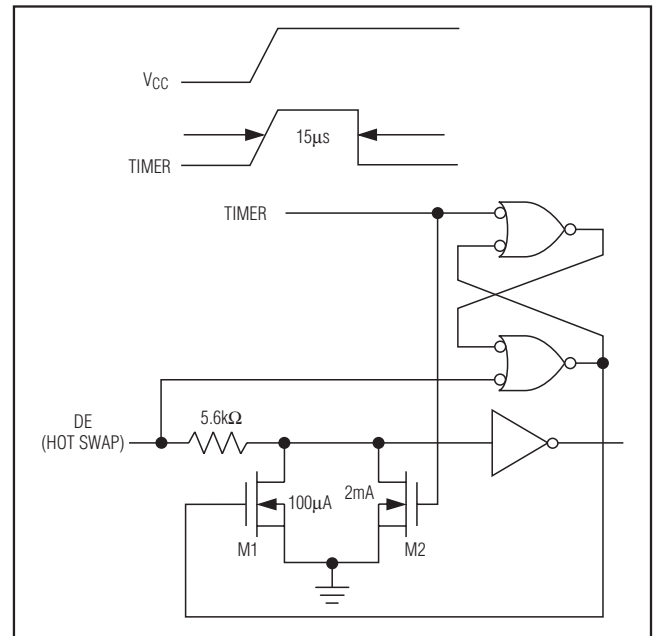

Figure 10. Simplified Structure of the Driver Enable Pin (DE)
At the driver-enable input (DE), there are two NMOS devices, M1 and M2 (Figure 10). When VCC ramps from zero, an internal 15 μs timer turns on M2 and sets the SR latch, which also turns on M1. Transistors M2, a 2mA current sink, and M1, a 100 μA current sink, pull DE to GND through a 5.6k Ω resistor. M2 pulls DE to the disabled state against an external parasitic capacitance up to 100pF that may drive DE high. After 15 μs , the timer deactivates M2 while M1 remains on, holding DE low against three-state leakage currents that may drive DE high. M1 remains on until an external current source overcomes the required input current. At this time, the SR latch resets M1 and turns off. When M1 turns off, DE reverts to a standard, high-impedance CMOS input. Whenever VCC drops below 1V, the input is reset.